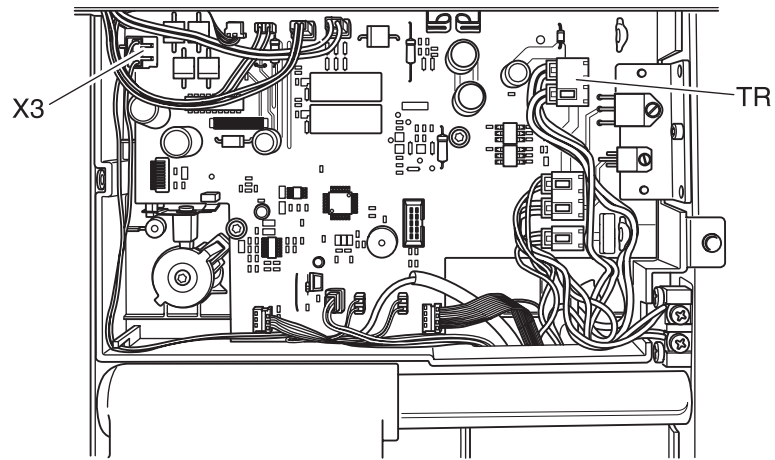

Fig. 24b
- Disconnect plugs shown in fig. 24b (connector plugs) from the circuit board.